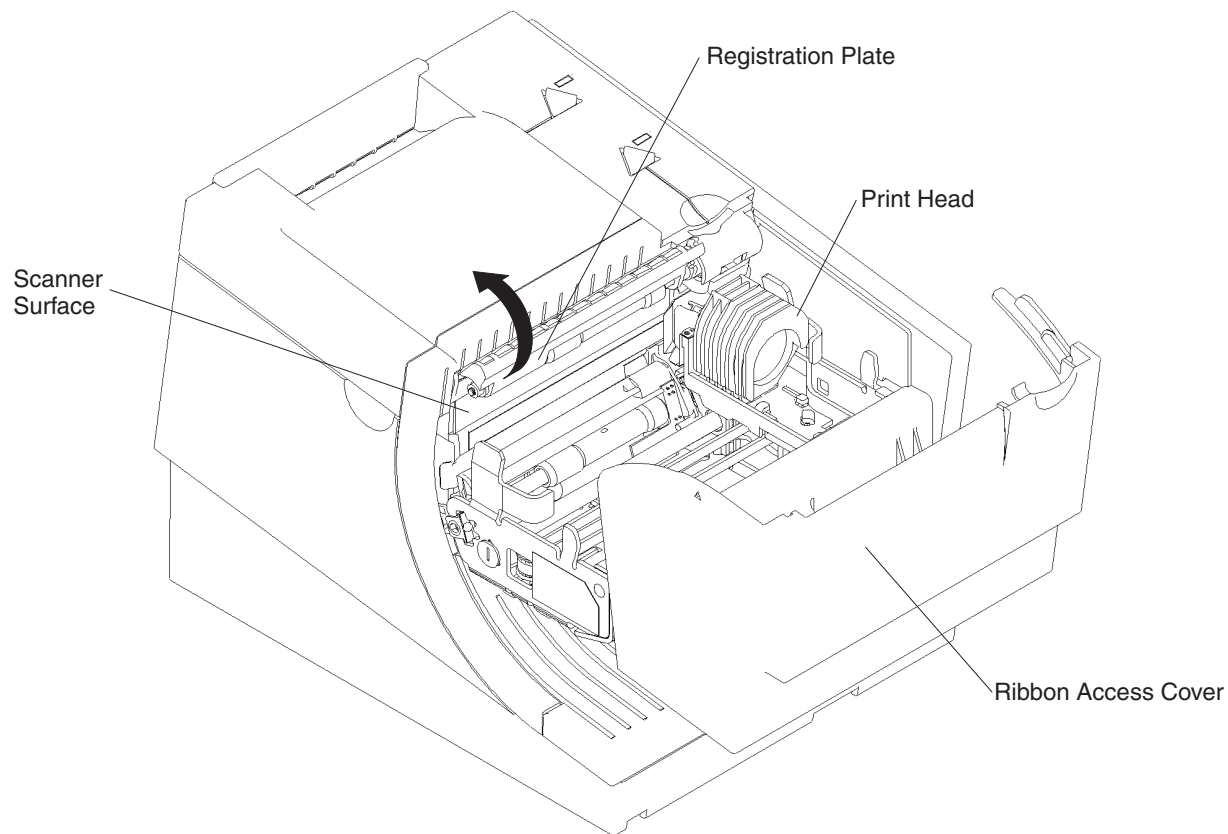

Figure 31. Scanner and print head location, Model TI8
1. Open the ribbon cover. See Figure 31 on page 59.
3. Rotate the scanner registration plate 180 degrees up to expose the glass scanner surface. See Figure 31 on page 59.